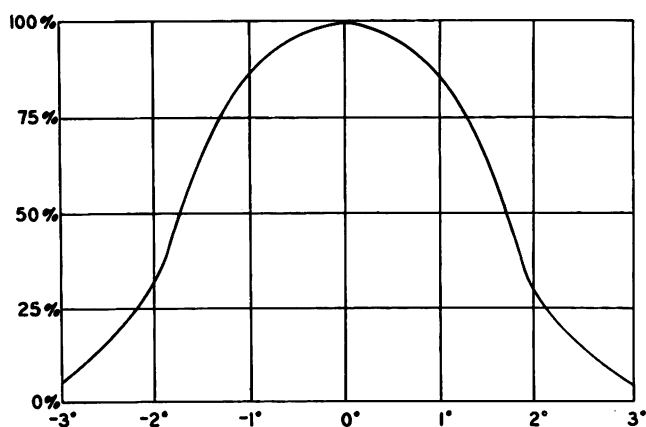

Figure 3C.—Relative energy in the reflected radar signal at various angles off the center of the beam.
11. The directivity of an antenna is frequently specified by the angles at which the reflected power is one-half of the maximum at 0° . These angles are called half-power points. What are the approximate half-power points of the antenna whose directivity is plotted in figure 3C?
12. Assume that a radar that has the directivity indicated in figure 3C is beamed at two targets with the same range. What is the smallest angle of separation between the targets that will permit the radar to see them as two separate targets?